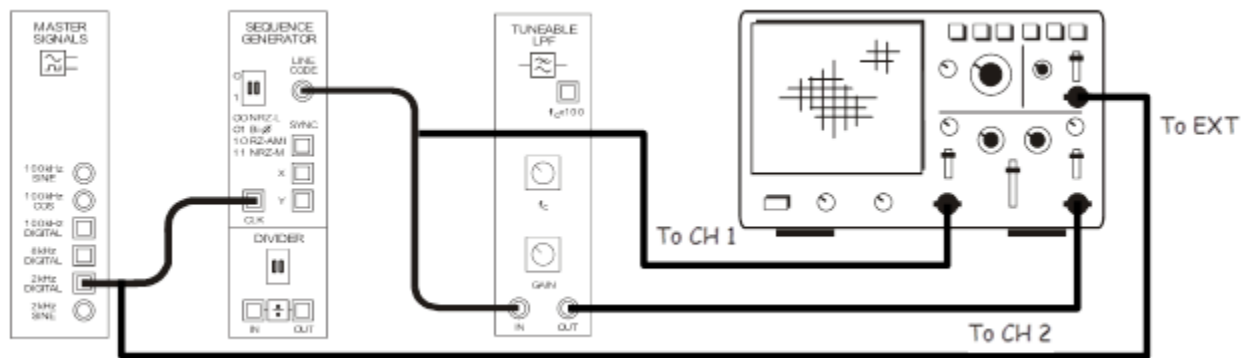

Figure 20: Setup for generating eye-patterns
1. Make the connections as in Figure 20.